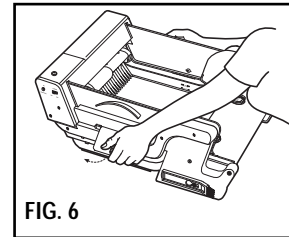
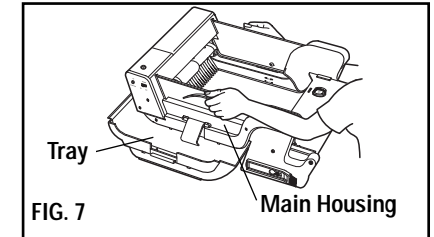

FIG. 6
FIG. 7
4. Pull out the lower part of the latches on both sides of unit (Fig. 6) and, using the handles on the top assembly, lift up. This will separate the tray from the main housing (Fig. 7).